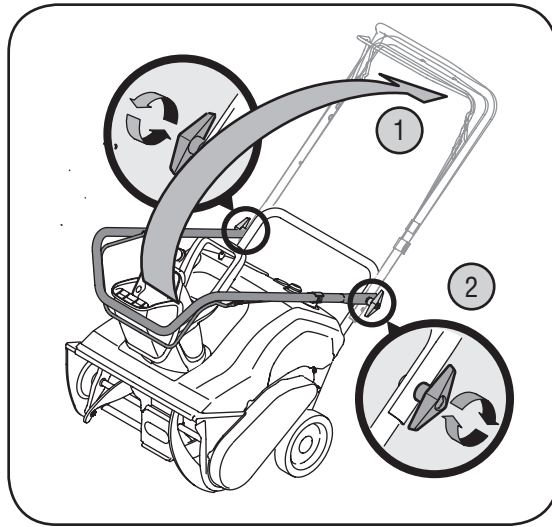

Figure 1
2. Raise the upper handle in the direction shown in Figure 1 until it clicks into the operating position. Make sure not to pinch or crimp the cable.